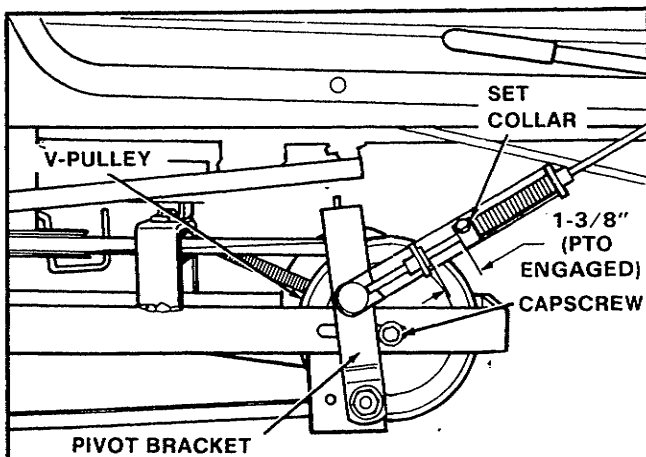

Figure 12. PTO Adjustment
2. Measure the distance between the set collar and rod guide as shown in figure 12. The distance should be 1-3/8" (35 mm).
6. To adjust the pivot bracket, first disengage the PTO. Loosen the screw which secures the "V" pulley in the slot (figure 12). Moving the pulley forward or back in the slot will change the pivot bracket position. Retighten the screw while holding nut on other side to keep from turning.